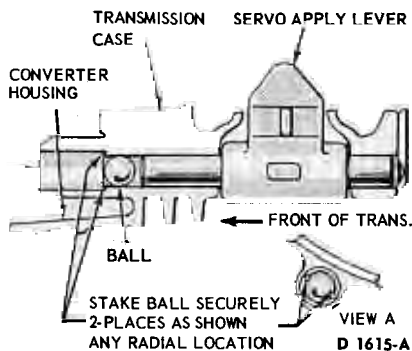

FIG. 36—Servo Apply Lever Installation
1. Working from inside of the transmission case, carefully drive on the servo apply lever shaft to remove the ball. The shaft (Fig. 36) can be withdrawn from the case by hand.
3. Press the ball into position and stake it in two places as shown in Fig. 36.